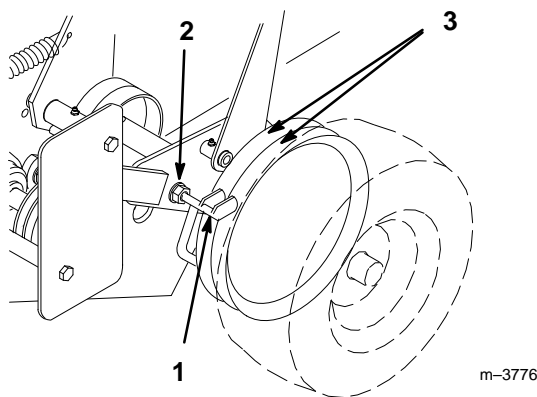

Figure 46
1. Loosen the locknut holding scraper to the engine frame (Fig. 46).
2. Rotate scraper until they align with center of pulley grooves (Fig. 46).
3. Tighten the locknut (Fig. 46).